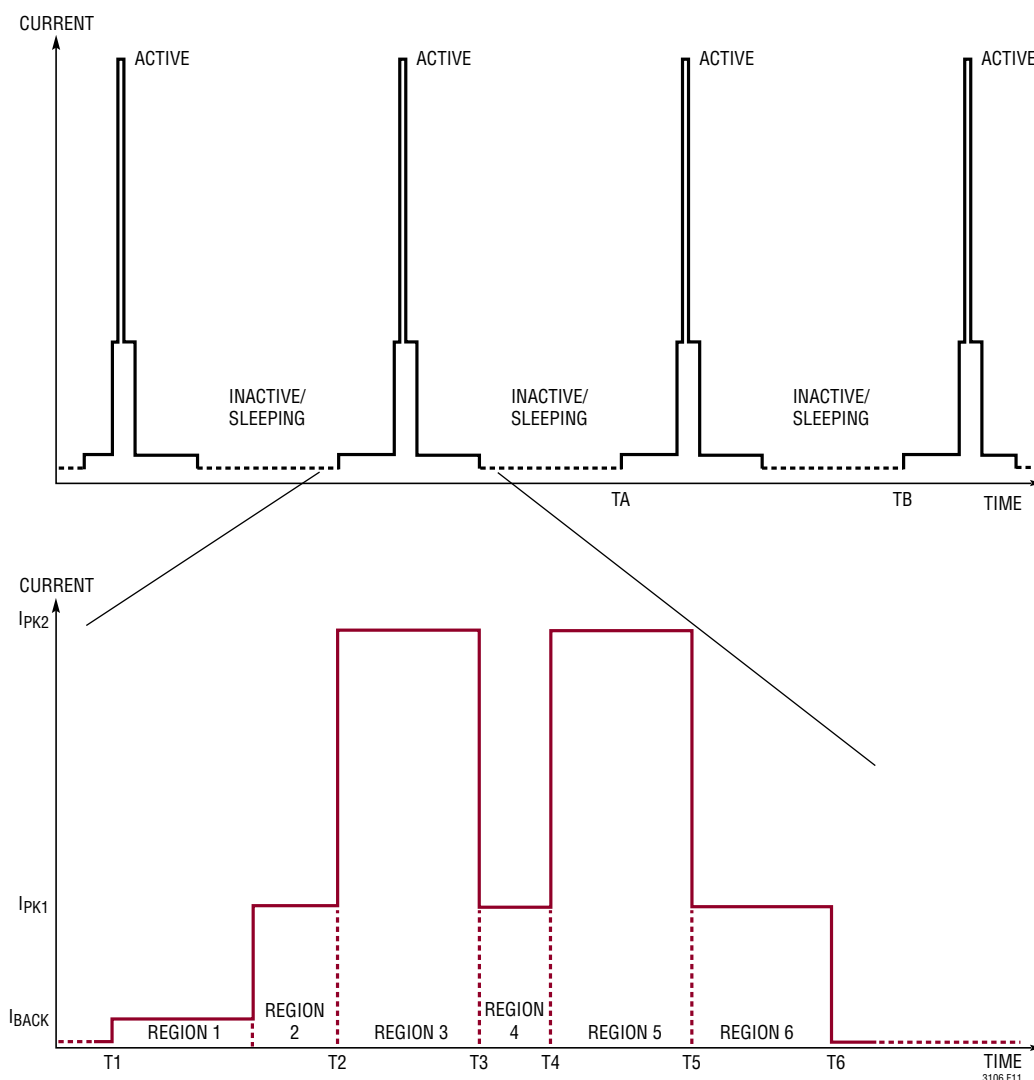

Figure 11. Application Load Profile for Schematic in Figure 8
In this application the load is a low power proprietary RF profile (Figure 11). The regions of operation are described, output and power losses are tabulated and the peak levels for each are given in Table 8. The total average output power needed in this application can be calculated to be 191µW.
**Table 8. Application Load Profile Power Budget for Figure 11**
**Table 10. Application Load Profile Power Budget for Figure 11**